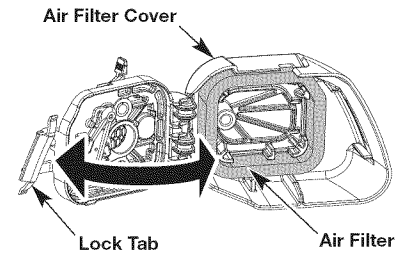

Fig. 22
1. Open the air filter cover by pressing the lock tab in and pulling out on the air filter cover (Fig. 22).
2. Remove the air filter (Fig. 22).
6. Replace the air filter into the air filter cover (Fig. 22).
7. Close the air filter cover by swinging it to the left and then pressing it down until the lock tab snaps into place (Fig. 22).